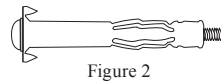

Figure 2
The MCLK12 is supplied with two Wall Anchors for mounting the clock on a wall. The Wall Anchors will accommodate wall thickness ranging from 1/8 inch (0.318 cm) to 5/8 inch (1.59 cm) thick (typical residential drywall construction). Refer to figure 2. Additional wall fasteners may be needed when the wall thickness is greater than 5/8 of an inch or with other types of wall construction. It is recommended that the Professionals at your McIntosh Dealer, who are skilled in all aspects of installation and operation, install the MCLK12 Analog Clock and any associated audio/video equipment.
6. Locate the two supplied Wall Anchors and insert them into the just drilled openings in the wall. Refer to figures 2 and 4.